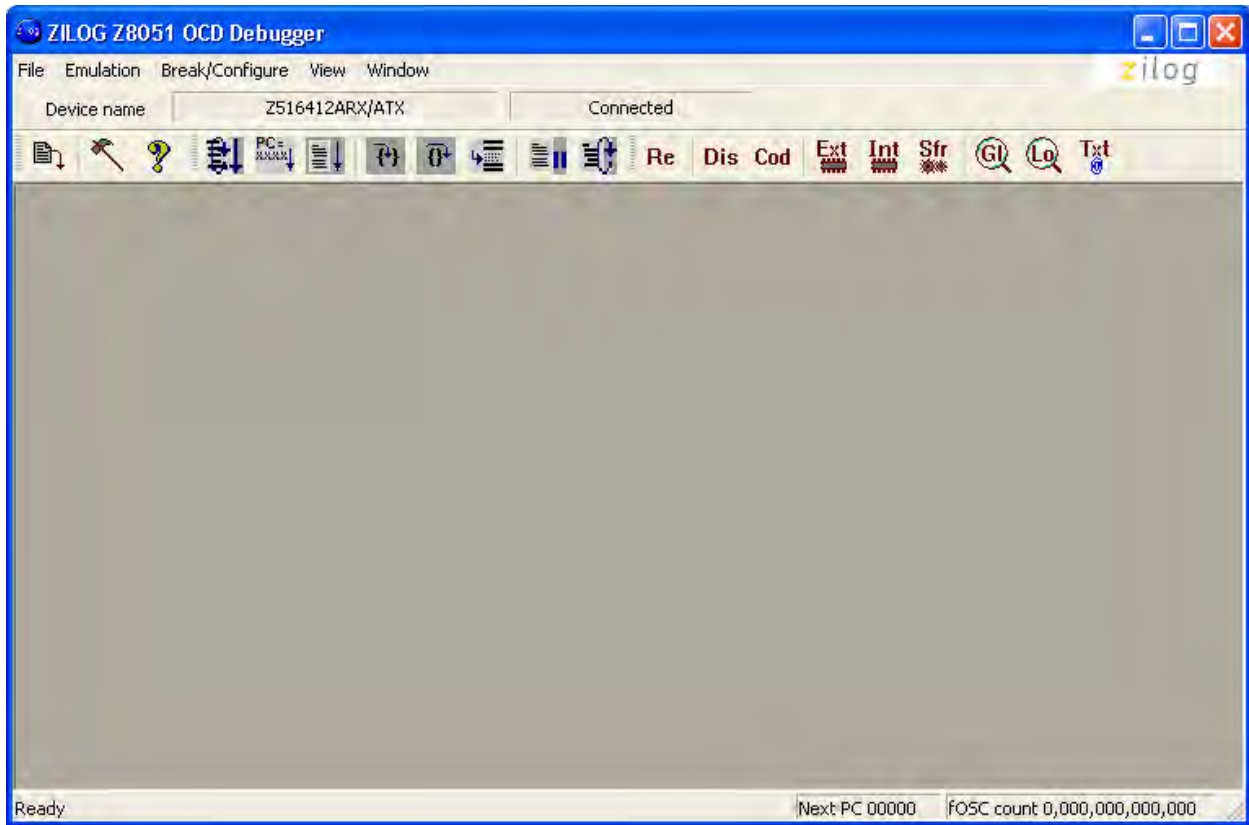
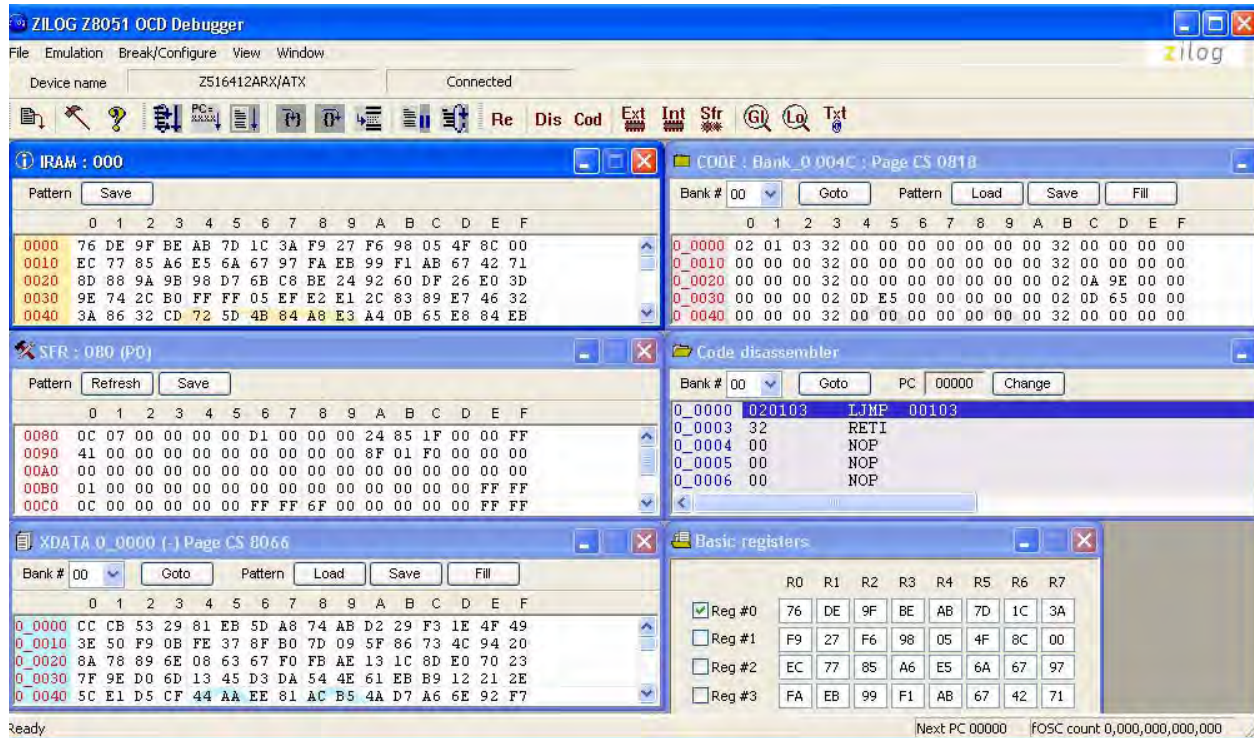

Figure 19. A Typical On-Chip Debugger Window
Figure 20. A Typical On-Chip Debugger Window with Child Windows Open
9. Click **OK** to open the On-Chip Debugger's main window. A typical OCD display is shown in Figure 19; Figure 20 shows an OCD window with child windows open.
► **Note:** Use the View menu to open the child windows. For this demonstration, the example windows shown in Figure 20 do not need to be opened.